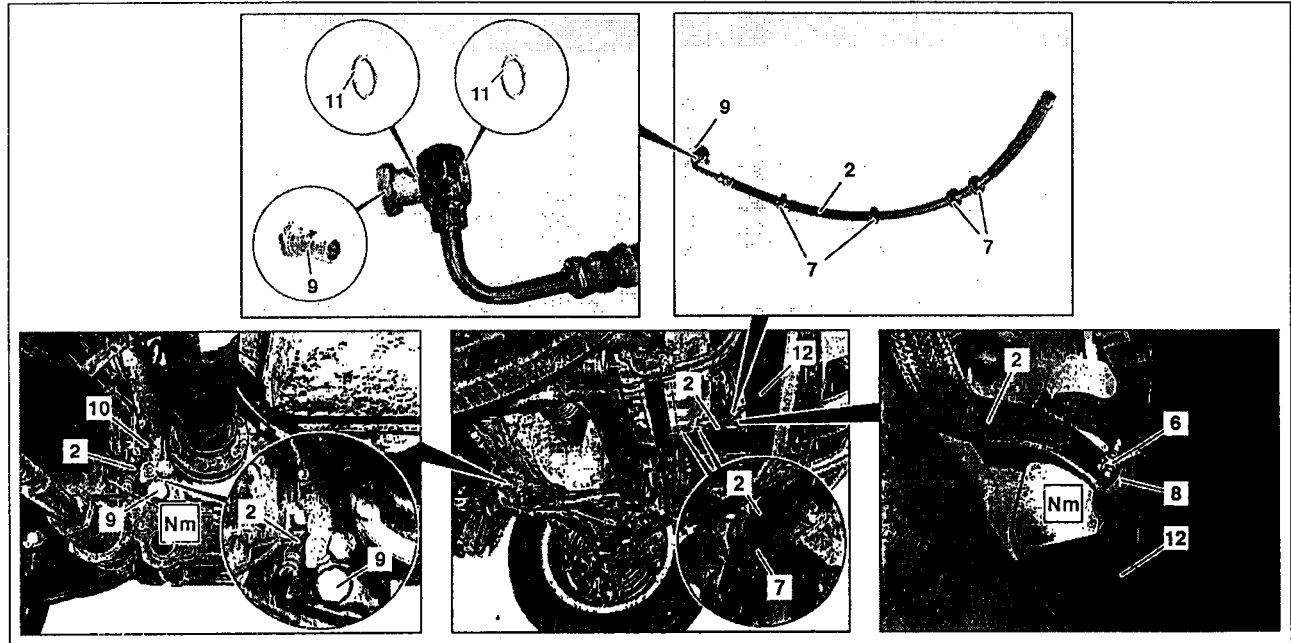

Figure 2 (sealing ring vehicle shown, vehicles with flare fitting and O-ring may be different)
- 7. Detach lower power steering hose mounting grommets (7, Figure 2) from 4 holders (attached to the frame rail on the left front of vehicle).
- 8. Loosen hose clamp (6, Figure 2) and disconnect lower power steering hose (2) from radiator fitting.
- 9. Remove banjo bolt (9, Figure 2) securing lower power steering hose (2) to power steering rack (10) and remove power steering hose by routing out towards rear of vehicle.
- ⓘ Carefully clean lower power steering hose connection (8, Figure 2) at the radiator, using a lint-free shop towel to ensure that no power steering fluid residue is present on the hose connection. Install the lower power steering hose **DRY** onto the hose connection (8, Figure 2) at the radiator (12, Figure 2).
- ⓘ Install **new** sealing rings (11, Figure 2) or rubber O-ring as applicable when installing new lower power steering hose (2)
- 12. Slide the installed new hose clamp toward the radiator and locate in the proper position on the lower steering hose (1, Figure 1) as shown and tighten hose clamp screw (6, Figure 2).